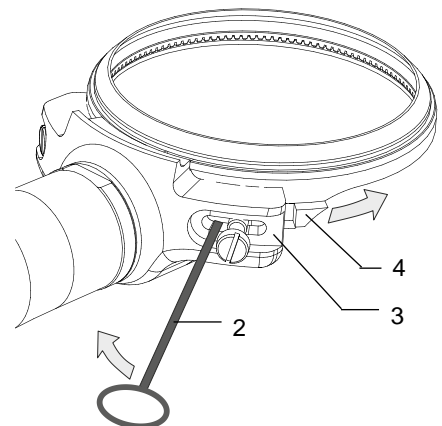

Fig. 7.2 – Lever open the blade fixture
- 2) Insert the tool change key (2) between the screw and housing (3), see Fig. 7.2.
- 3) Pry the knife fixture (4) open with slight pressure and hold it, see Fig. 7.2.
- 4) Hold the tool change key (2) in position.
- 1) Pry the knife fixture (1) open with slight pressure and hold it, see Fig. 7.2.
- 2) Hold the tool change key (2) in position, see Fig. 7.2.
- 4) Remove tool change key (2), see Fig. 7.2.